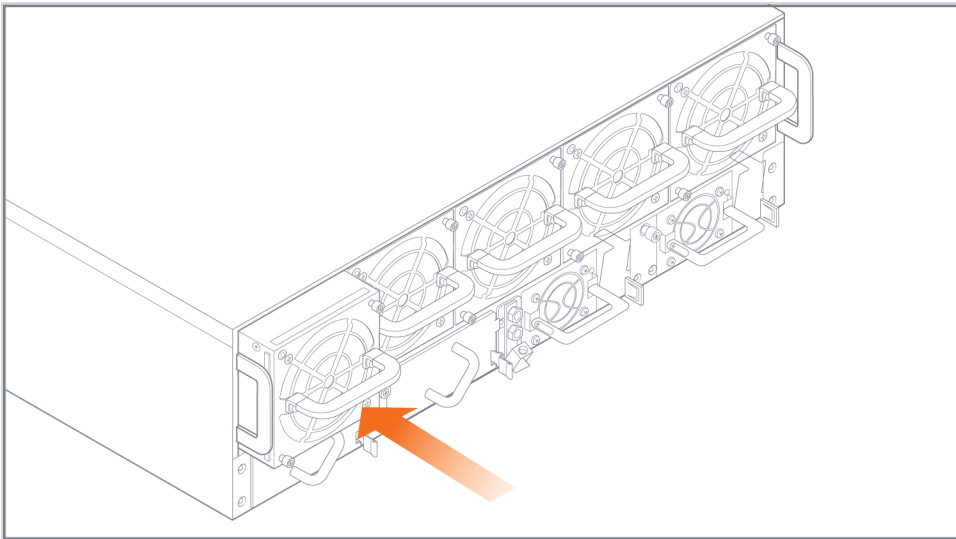

Figure 9: Fan Module Insertion
1. Place the working fan module into the empty fan module slot and slide it in until it is flush with the chassis rear and will not slide in any further. Refer to Figure 9: Fan Module Insertion on page 79.